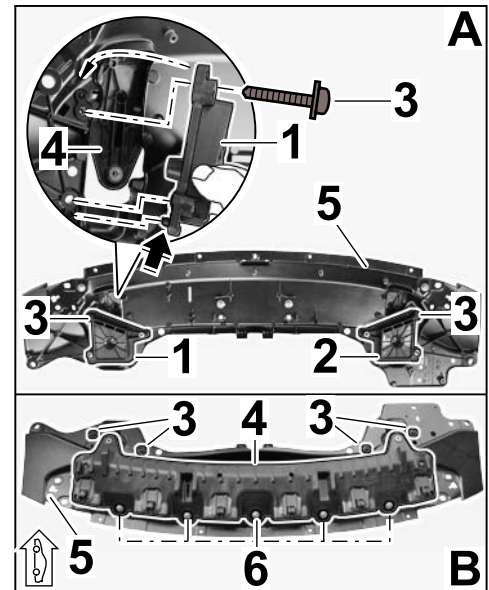

Figure 6
- 3.1.3 Position water drip pan (left: ⇒ *Figure 6 -inset-/right*) on the underside of the mounting bracket in such a way that the pin on the water drip pan (⇒ *Figure 6 -inset, arrow-*) engages in the bore on the mounting bracket.
Loosely pre-fit the water drip pan (at the left/right) using one combination screw (M6 x 35 TC, ⇒ *Figure 6 -A3-*) on each side (⇒ *Figure 6 -4-*).
- 3.1.4 Turn the mounting bracket on the upper side (⇒ *Figure 6 -B-*) and secure the water drip pan (at the left/right) using two combination screws (M6 x 35 TC, ⇒ *Figure 6 -B3-*).
Tighten three combination screws (M6 x 35 TC; water drip pan, left/right ⇒ *Figure 6 -3-*) on the upper/lower side of the mounting bracket.
- 3.1.5 Secure mounting adapter to the mounting bracket using five combination screws (M6 x 25 PA; ⇒ *Figure 6 -B-*).